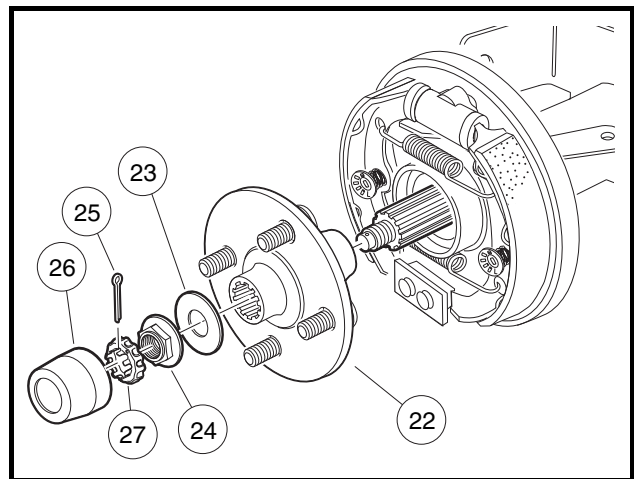
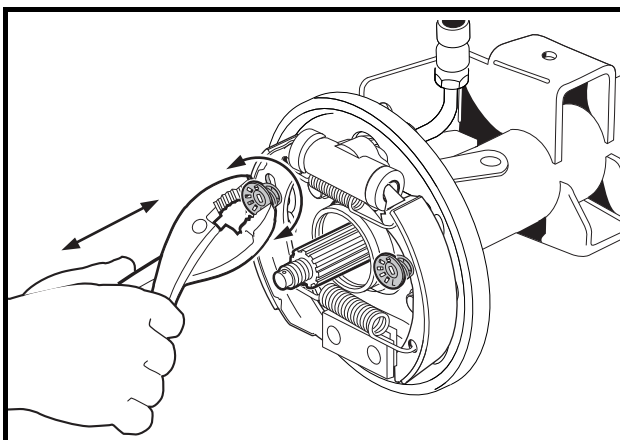

Figure 6-5 Rear Wheel Bolt Flange Assembly
Figure 6-6 Rotate Rear Spring Cups
**NOTE:** It is recommended that the wheel bolt flange (22) be removed prior to brake shoe removal (Figure 6-5, Page 6-9).
2. Remove rubber boot (26), cotter pin (25), locking cap (27) and large flat washer (23) (Figure 6-5, Page 6-9).
3. Remove the flanged nut (24) and large flat washer (23) from the axle end.
4. Slide the wheel bolt flange (22) off of the splined axle end.
5. Use pliers or a brake tool to rotate the cup washer and compression spring assembly 90° and remove the cup and spring from each brake shoe (Figure 6-6, Page 6-9).
2. Compress the spring with the cup washer (12) onto the pin of the adjuster assembly (3) (**Figure 6-1, Page 6-2**) and rotate 90° to secure the brake shoe (**Figure 6-6, Page 6-9**).
2. Compress the spring with the cup washer (12) onto the pin of the adjuster assembly (3) (**Figure 6-19, Page 6-21**) and rotate 90° to secure the brake shoe (**Figure 6-6, Page 6-9**).
5. Compress the remaining spring and cup washer (12) onto the pin of the adjuster (3) (**Figure 6-19, Page 6-21**) and rotate 90° to secure the brake shoe (**Figure 6-6, Page 6-9**).
- 8.1. Slide wheel bolt flange (22) onto splined axle (**Figure 6-5, Page 6-9**).